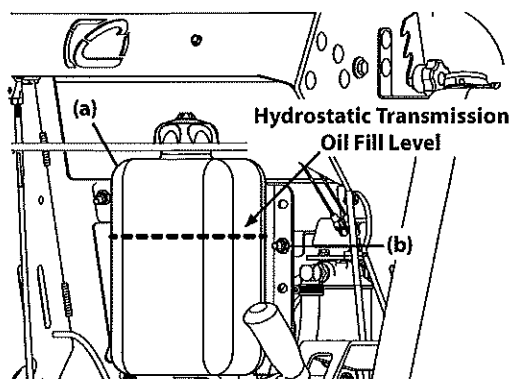

Figure 22
2. Ensure the hydrostatic transmission oil reservoir level is just above the upper reservoir mounting bolts (b) as shown in Figure 22.
7. Add hydrostatic transmission oil until the level is even with the upper reservoir mounting bolts. See Figure 22.